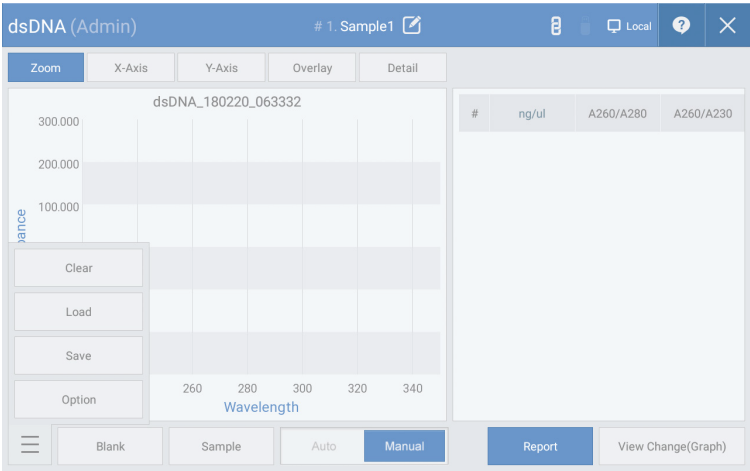

Fig. 3.1
1. Click the “Settings” button in [Fig. 3.1] to set the measurement environment.
2. Load the blank sample and click “Blank” shown in [Fig. 3.1] to measure the zero point.
4. Load the sample and click the “Sample” button shown in [Fig. 3.1] to begin measurement.